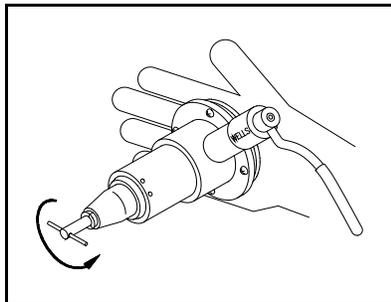

Figure 6.
- 6.4.5 Hold the steel clutch plate to keep it from turning while you remove the collet. See Figure 6.